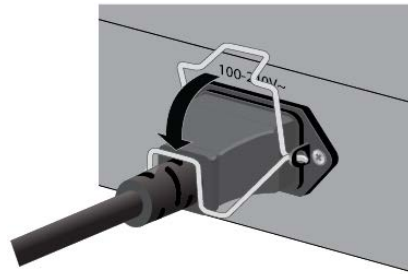

Figure 66. Lowering the Power Cord Retaining Clip
3. Lower the power cord retaining clip to secure the cord to the switch. Refer to Figure 66.